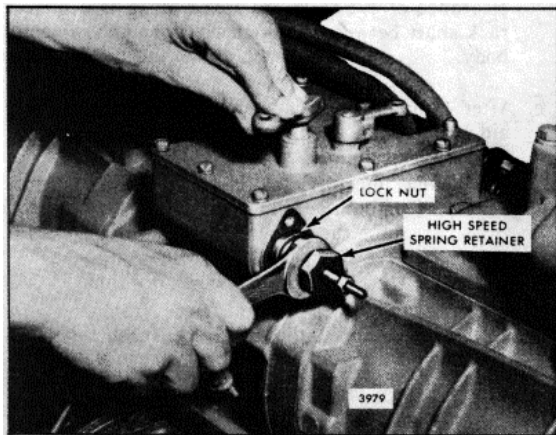

Fig. 13. - Adjusting Maximum No-Load Speed
1. Loosen the spring retainer locknut and back off the high-speed spring retainer approximately five turns (Fig. 13).